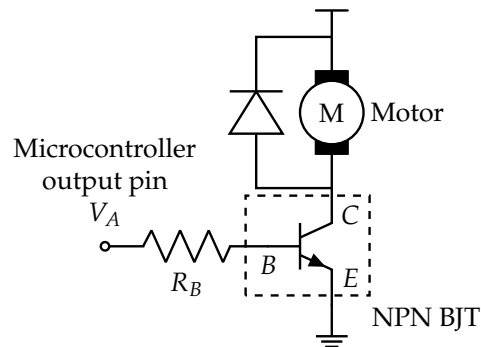

Figure 7: Motor Controller Circuit
In the lab project, you will be designing SIXT33N, a mischievous little robot who *might* just do what you want — if you design it correctly. In phases 1 and 2, you will build the **legs** of SIXT33N: you will be designing SIXT33N's wheels and developing a linear model for the car system. The wheels will be driven by two 9-Volt DC motors whose driver control circuit is shown in Figure 7.
The BJT in Figure 7 is switching between **ON** and **OFF** modes when  $V_A$  is HIGH and LOW respectively. The model for both ON and OFF states are shown in Figure 9. When the BJT turns on,  $V_{BE}$
- Draw the equivalent motor controller circuit when the BJT is ON by substituting in the BJT model from Fig. 9a into Fig. 7. Express  $I_B$  and  $I_C$  for  $V_A = V_{A,HIGH}$  as a function of  $R_B$ .
- Draw the equivalent motor controller circuit when the BJT is OFF by substituting in the BJT model from Fig. 9b into Fig. 7. Express  $I_B$  and  $I_C$  for  $V_A = V_{A,LOW}$  as a function of  $R_B$ .